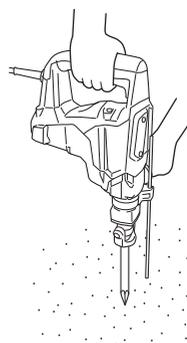

Fig. 5
2. How to chisel or demolish (**Fig. 5**)